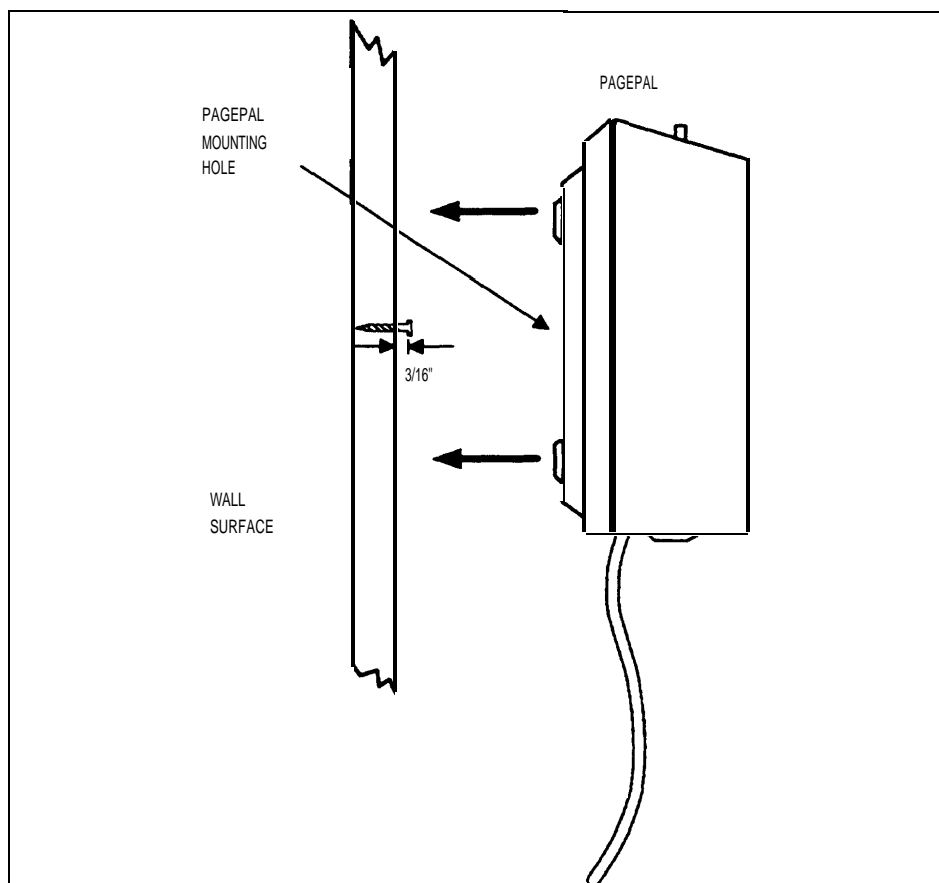

Figure 2-2. Wall Mounting
2. Drive the screw into the wall, leaving 3/16" space between the wall and the bottom of the screw head (see Figure 2-2).